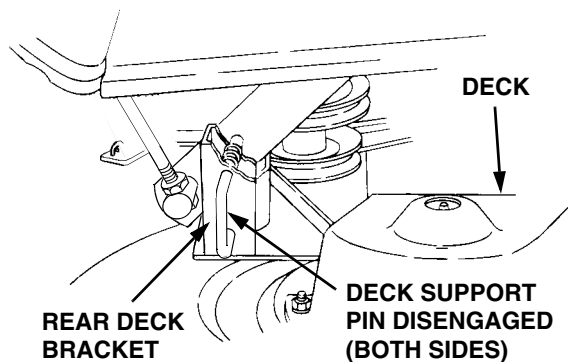

Figure 40
6. Pull the deck support pins outward, turn downward and release so both spring-loaded pins are held in the disengaged position against the outer surface of the rear deck brackets (See Figure 40).